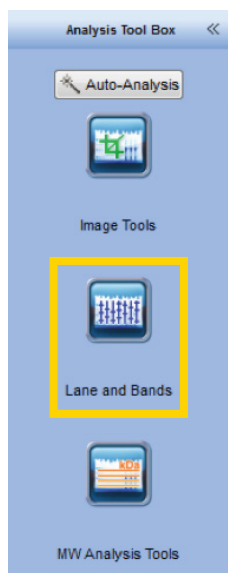

Fig. 1. Normalization is found under Lane and Bands in the Analysis Tool Box.
- With the stain-free and chemiluminescent blot images open, select **Lane and Bands** (Figure 1)